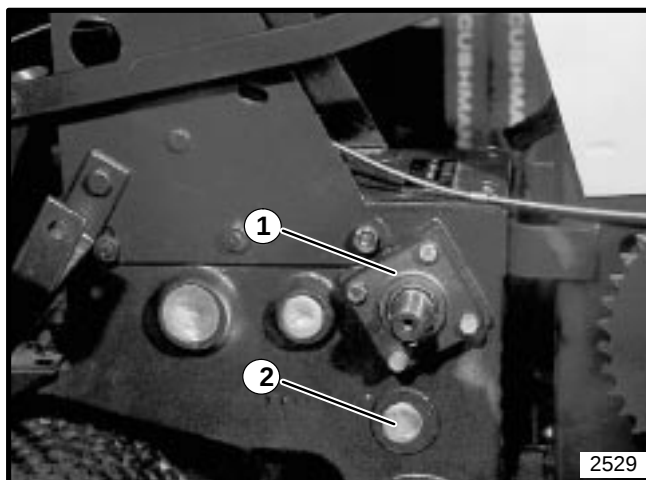

FIGURE 43
5. Remove the four (4) screws securing the bearing cage. Remove bearing cage and pulley shaft out of gearcase (removing the blade drive gears as shaft is pulled out). See Figure 43.